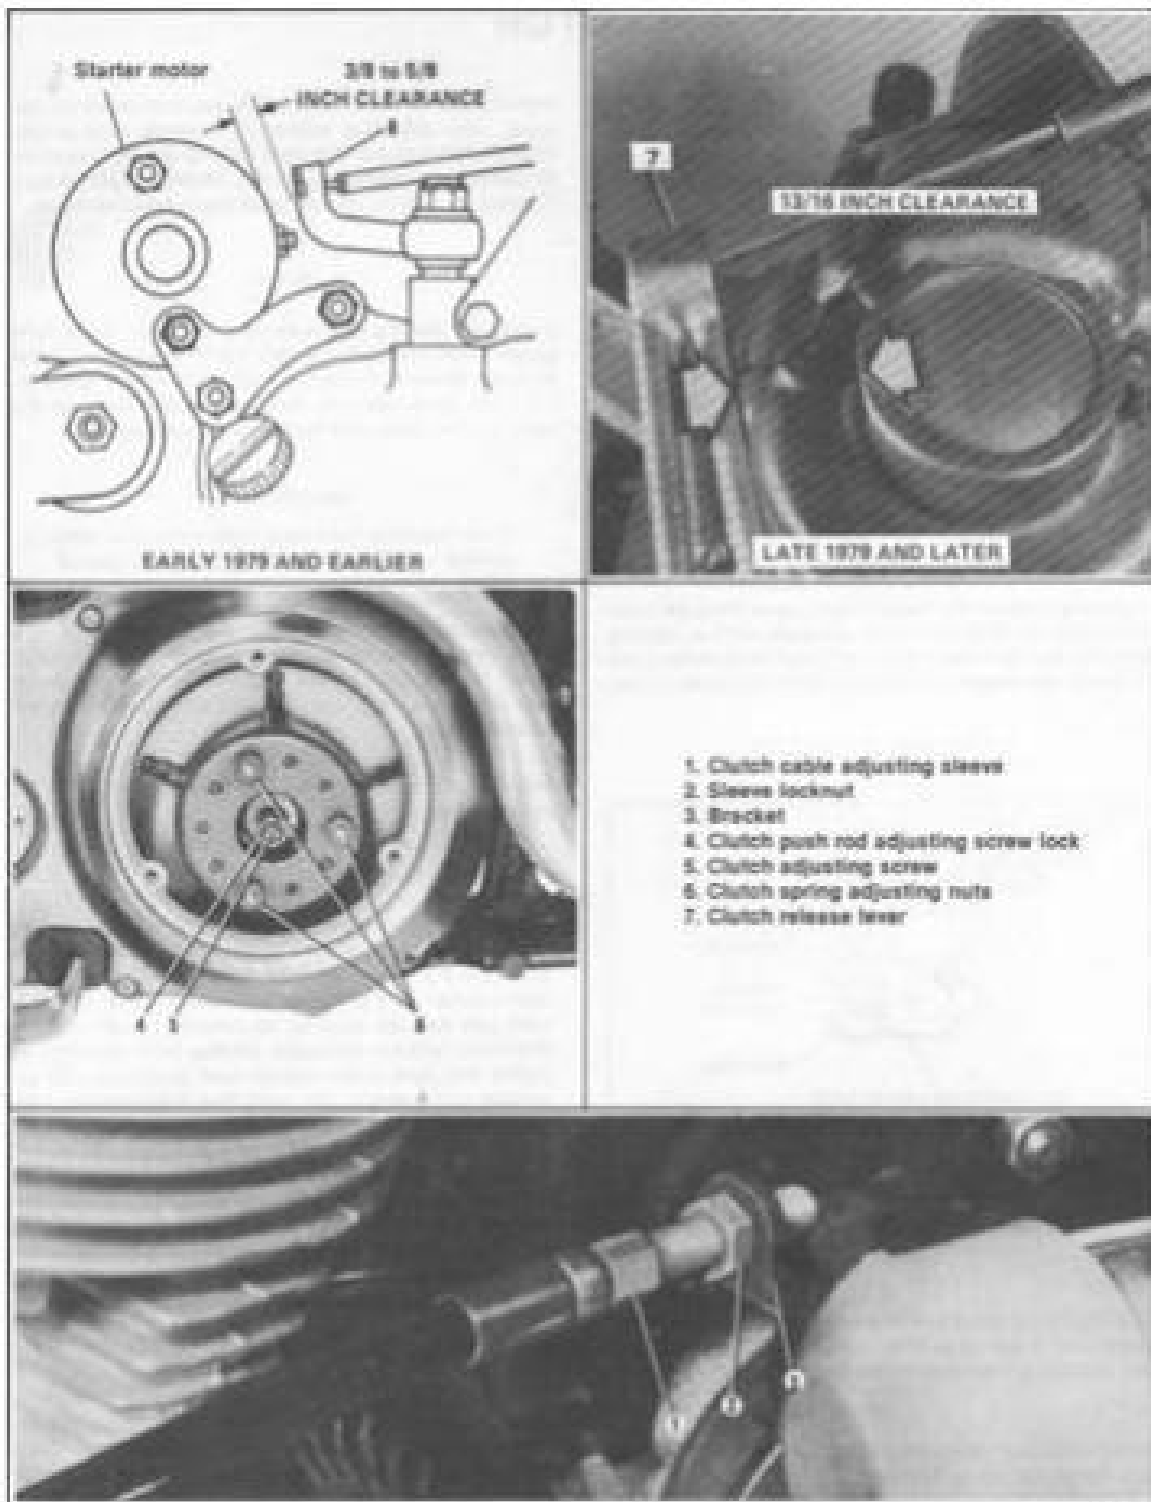

Figure 4-2. Adjusting Clutch
ADJUSTING HAND CLUTCH LEVER (Figure 4-2)
See Figure 4-2. Move end of lever (2) on transmission forward until it becomes firm, indicating that all slack in the actuating mechanism has been taken up.
Measure clearance as shown in Figure 4-2. If not within this range, adjust as follows:
Loosen control coil adjusting sleeve locknut (2, Figure 4-2) and turn control coil adjusting sleeve (1) all the way into bracket. Remove chain housing cover, loosen
If the clutch slips after adjusting clutch controls, increase spring tension on the three clutch spring guide stud nut (6, Figure 4-2). Remove clutch cover and tighten all three nuts one-half turn at a time until clutch holds. Test after each half turn by cranking the engine. Usually a clutch that holds without noticeable slipping when cranking the engine will hold under normal road conditions. Do not increase spring tension any more than is necessary to make clutch hold.